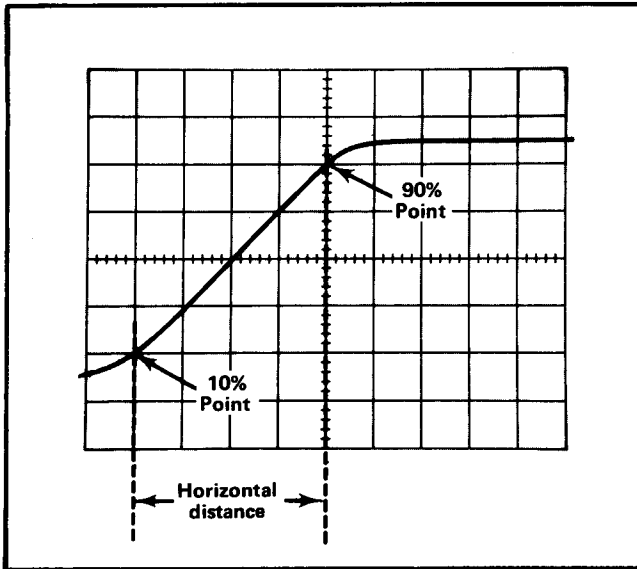

Fig. 2-12. Measuring risetime.
8. Adjust the horizontal POSITION control to move the 10% point of the waveform to the second vertical line of the graticule. For example, with a five-division display as shown in Fig. 2-12, the 10% point is 0.5 division up from the start of the rising portion.
Example. Assume that the horizontal distance between the 10% and 90% points is four divisions (see Fig. 2-12) and the TIME/DIV OR DL'Y TIME switch is set to 1 μ s with the MAG switch set to X10. Applying the time duration formula to risetime: